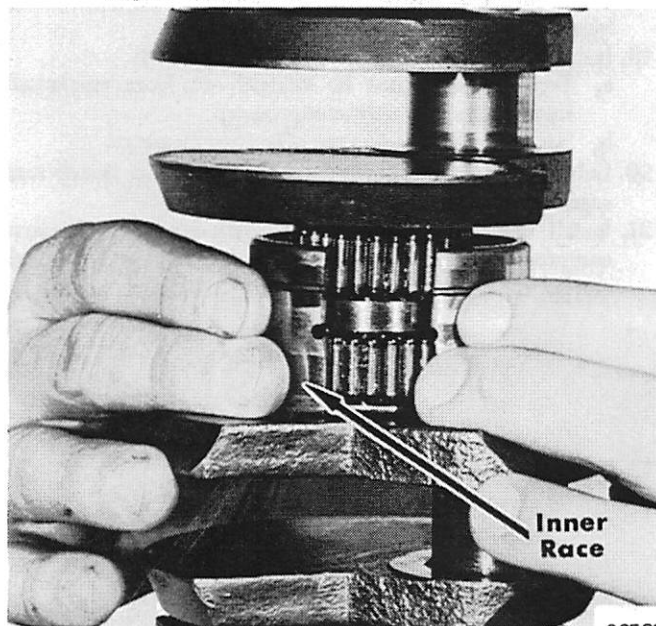

Figure 2. Removing and Installing Center Main Roller Bearings and Outer Race
2. Install bearings, bearing cage and snap ring onto crankshaft. Refer to parts list to make sure of number of bearings. (Figure 2)